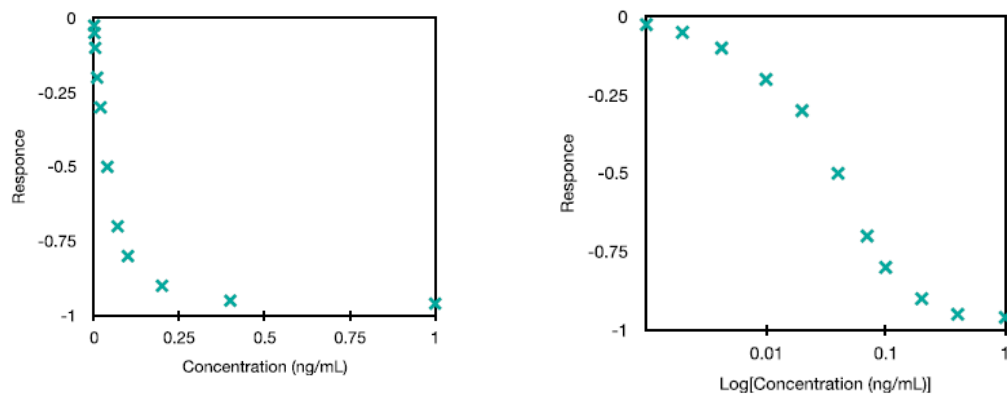

Figure 2: Competitive assay calibration curves in linear and logarithmic scales.
B) In a competitive immunoassay, the sample analyte is mixed with labelled analyte, which both and compete for a limited number of antibody-binding sites. Quantitative analysis can be achieved by determining the amount of labeled analyte that interacted at the binding sites. Therefore, with a fixed number of antibody sites, a smaller signal is expected when the ratio between the quantity of sample to the labeled analyte is large. In contrast, a larger signal is obtained when there is a small quantity ratio. Hence, the signal produced by the bound labeled analyte is usually inversely proportional to the amount of sample analyte. (Fowler, 2008) The calibration curve is shown in Figure 2.